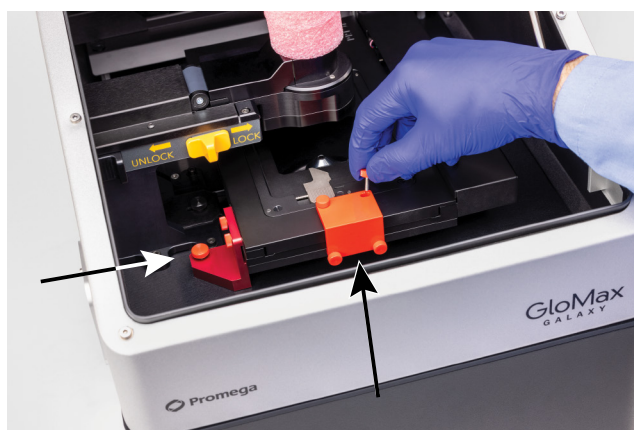

Figure 4. Shipping brackets.
3. Manually open the top lid of the instrument; remove the foam form from the LED module arm, remove the red thumbscrews of the red stage shipping brackets (Figure 4). Store these in your GloMax® Galaxy Bioluminescence Imager accessory box in case they are needed later to ship the unit for service.
1. Switch on the instrument power button on the rear panel of the instrument. Make sure the external power supply On/Off switch is turned on. Ensure the shipping brackets have been removed (see Figure 4, Panel A).